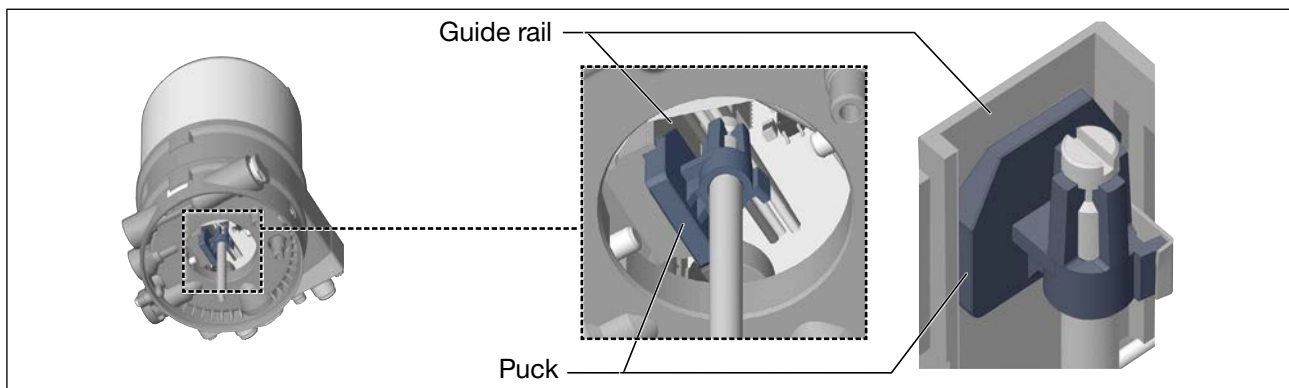

Fig. 16: Aligning the puck
2. Align the puck of the actuator with the guide rail of Type 8692/8693 (see “Fig. 16”)